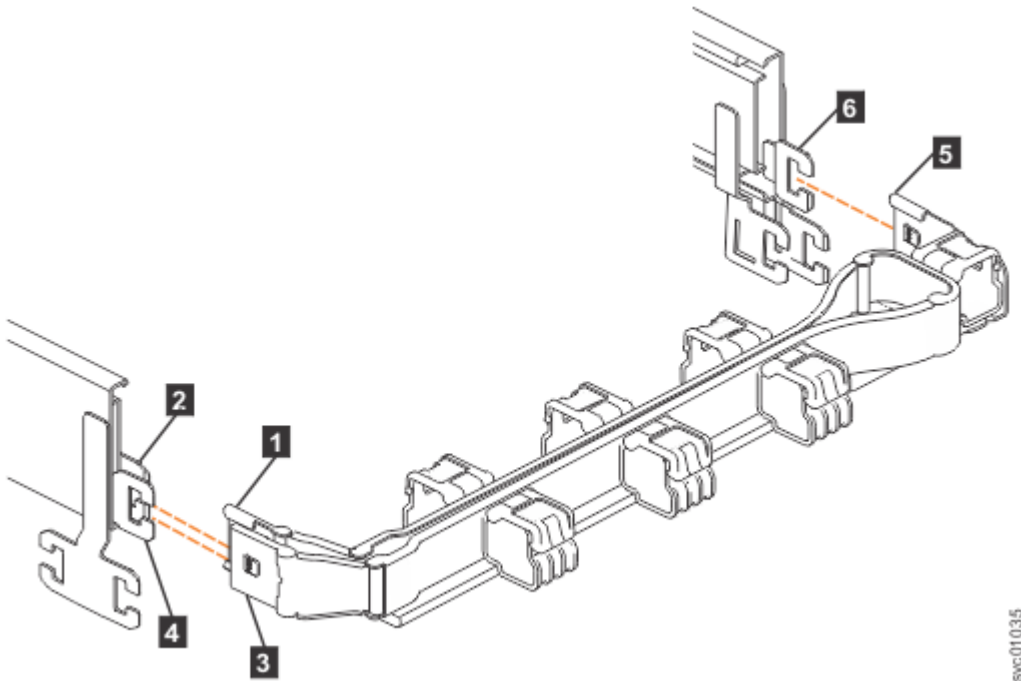
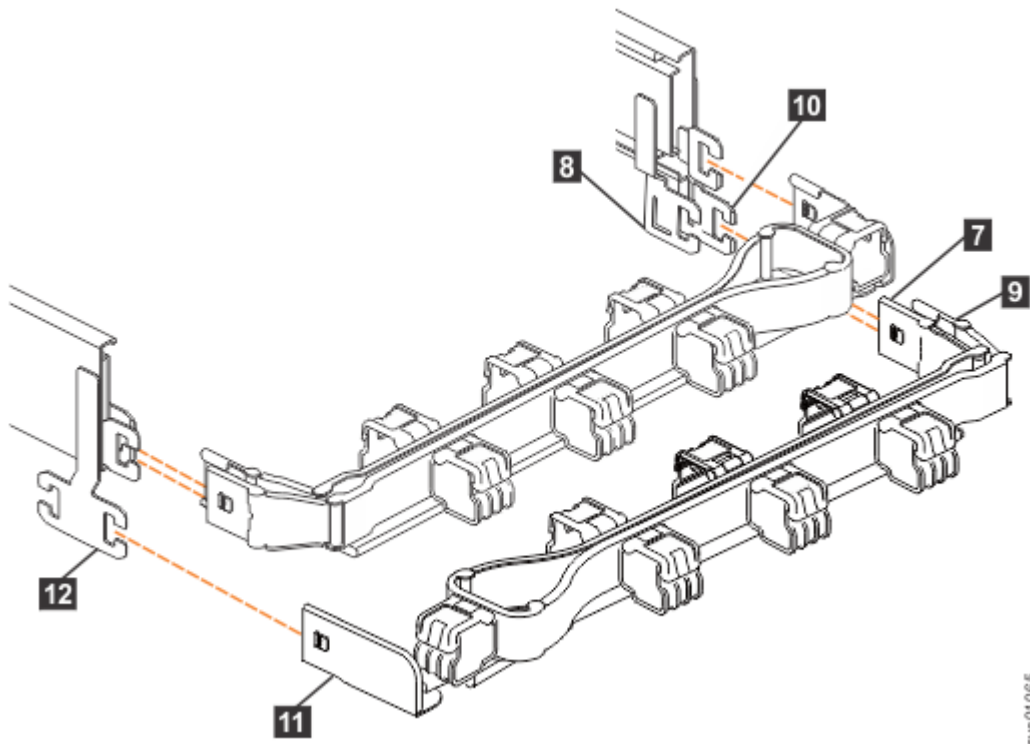

Figure 113. Connectors for the upper cable management arm
Figure 114. Components of the lower CMA assembly
The connectors of the CMA are installed on the rail hooks at the end of the support rails. Figure 113 on page 173 shows the connectors on the upper CMA assembly.
1. Press the latch on the connector base on the upper CMA assembly (**5** in Figure 113 on page 173).
2. Pull the connector to remove it from the connector base on the right support rail (**6** in Figure 113 on page 173).
3. Press the latch on the outer connector of the upper CMA assembly (**3** in Figure 113 on page 173).
4. Remove the outer connector from the inner member of the left support rail (**4** in Figure 113 on page 173).
5. Remove the inner connector of the upper CMA assembly (**1**) from the inner member of the left support rail (**2**), as shown in Figure 113 on page 173.
Note: The procedure for removing the lower CMA assembly is the same as the procedure to remove the upper CMA assembly. However, the connector locations are reversed. For example, the connector base of the upper CMA (**5** in Figure 113 on page 173) connects to the right rail. The connector base of the lower CMA (**11** in Figure 114 on page 174) attaches to the left rail.
6. Remove the connector base on the lower CMA assembly (**11**) from the connector on the left support rail (**12**), as Figure 114 on page 174.
7. Remove the inner connector of the lower CMA assembly (**9**) from the outer member of the right support rail (**10**), as shown in Figure 114 on page 174.
8. Remove the outer connector of the lower CMA assembly (**7**) from the inner member of the right support rail (**8**), as shown in Figure 114 on page 174.